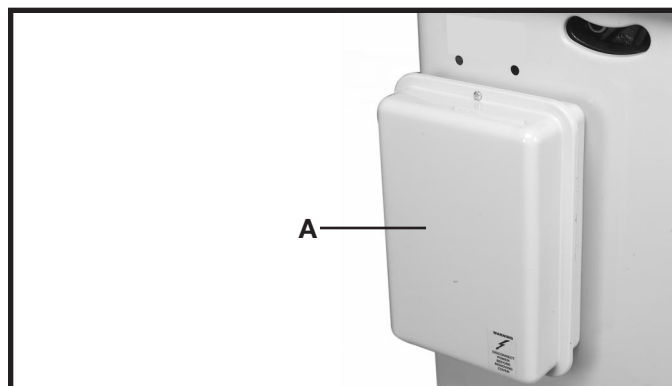

Fig. 8
3. Figure 8 illustrates the starter box (A) assembled to the saw cabinet.